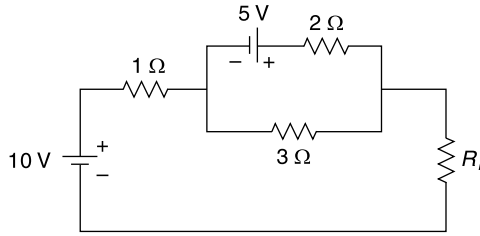

Fig. 4.97 Circuit of Ex. 4.70
4.70 Find Thevenin's equivalent circuit of the network across R_L in Fig. 4.97.
R_L is removed first and the corresponding figure is shown in Fig. 4.97(a). Under this condition 10 V source can not deliver any current. Current due to 5 V source circulates through $2\ \Omega$ and $3\ \Omega$ resistor